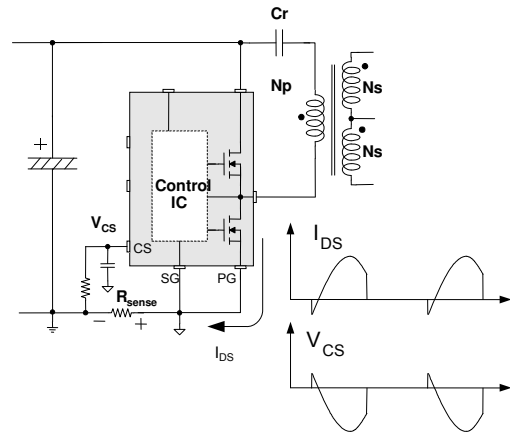
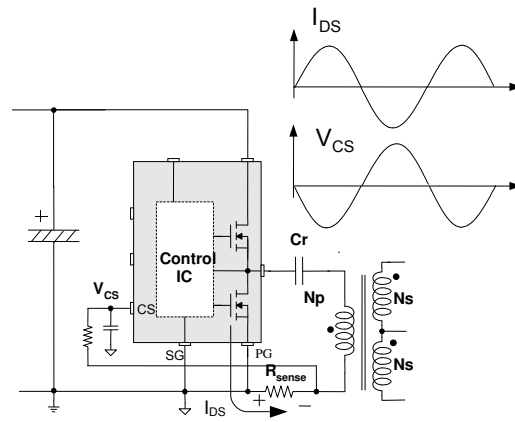

Figure 27. Half-Wave Sensing
Figure 28. Full-Wave Sensing
**8.1 Resistive Sensing Method:** The IC can sense drain current as a negative voltage, as shown in Figure 27 and Figure 28. Half-wave sensing allows low power dissipation in the sensing resistor; while full-wave sensing has less switching noise in the sensing signal. For a time constant range for the filter, 3/100~1/10 of the operating frequency is reasonable.